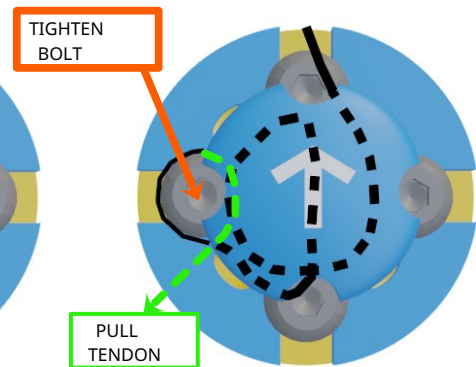

Figure 5.58: Extension end - Pulling and fastening
3. While holding the tendon pulled with manual assembly pliers, tighten the bolt well with the wrench to lock the tendon (figure 5.58)